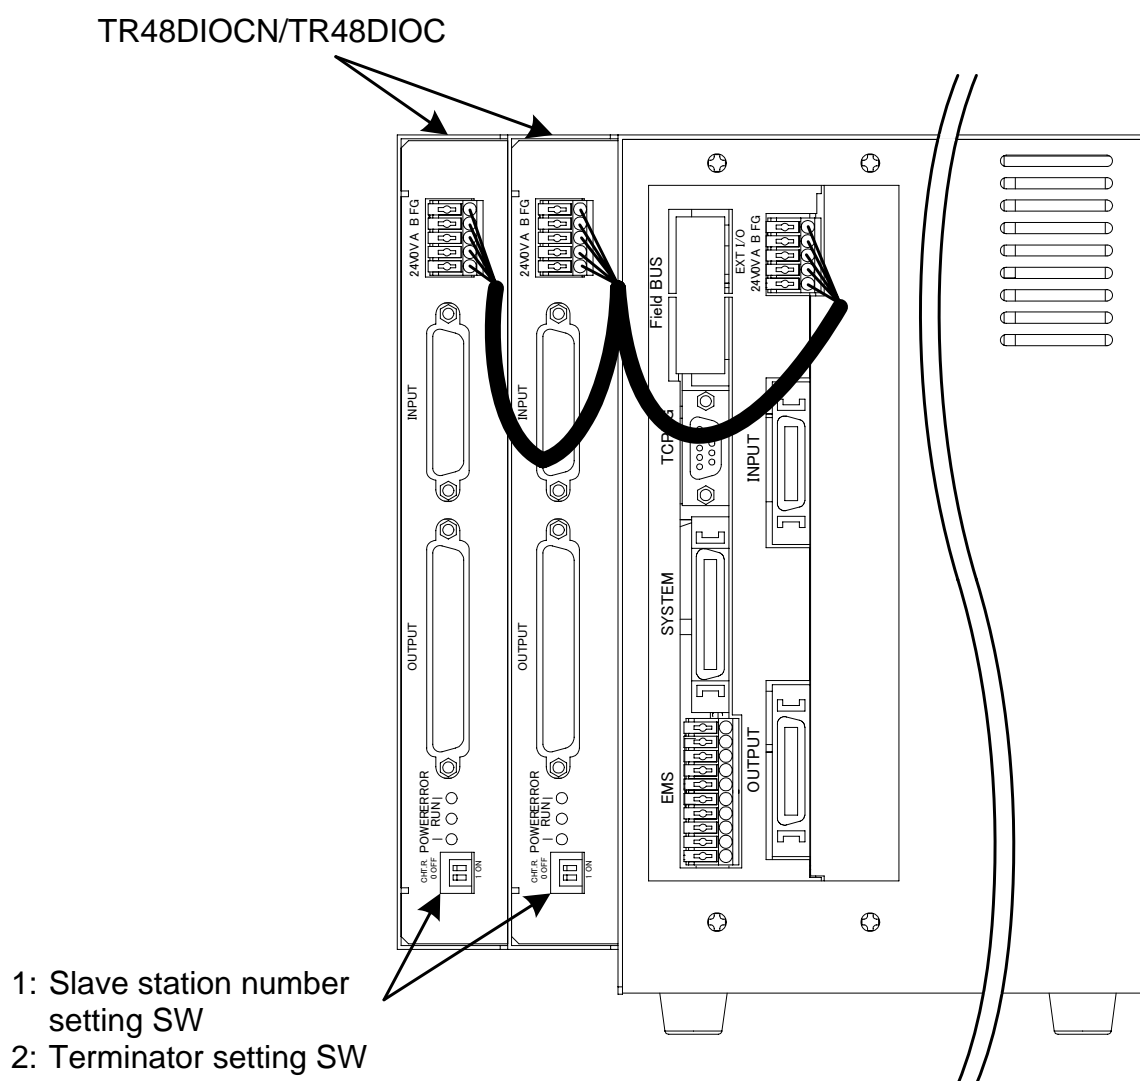

Fig. 7.4 Connection of TR48DIOCN/TR48DIOC module
When two (2) TR48DIOCN/TR48DIOC modules are used, see Fig. 7.4 for example. As the TR48DIOCN/TR48DIOC module on the extreme left side as viewed from the controller rear side is the terminal station in terms of cable wiring, set ON the terminator setting switch equipped on this module alone. The terminator of the left TR48DIOCN/TR48DIOC module should remain OFF.